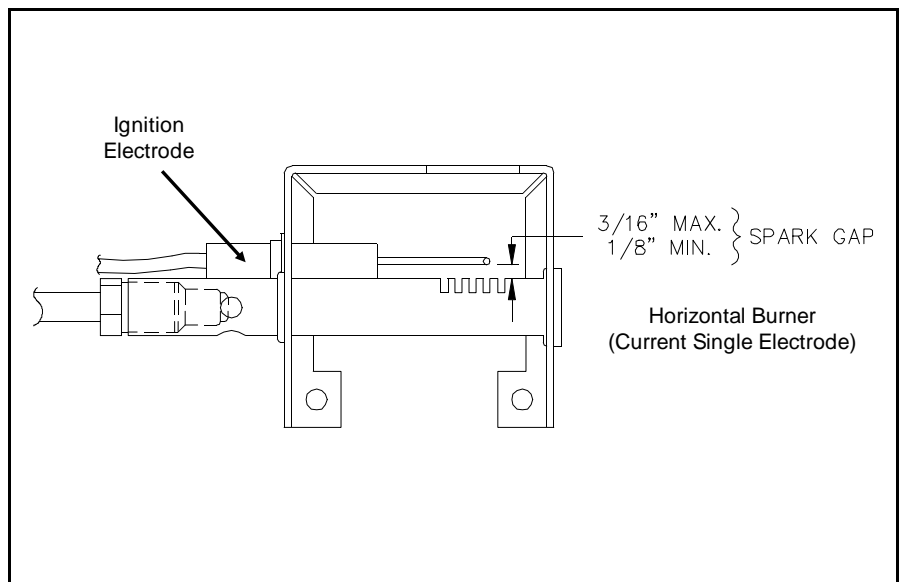

Figure 4.33 Proper Spark Gaps
17. Check to insure that the Ignition Module is sending sparks to the burner and that the electrode is adjusted as shown in Figure 4.33. See end of section for illustrations of earlier burner/electrodes.
21. Check for carbon build-up on the Sense electrode (if present). See Figure 4.33 for the Sense electrode location.